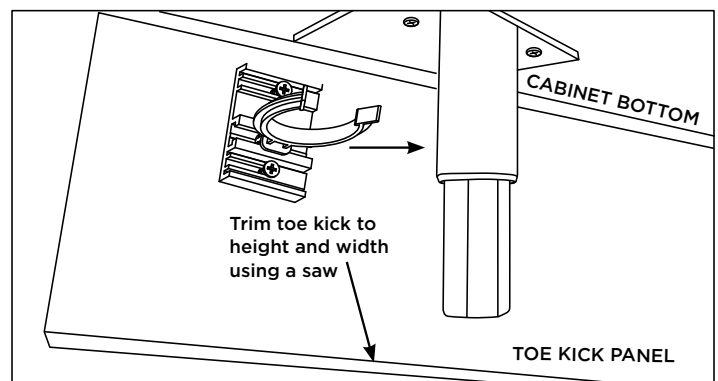

Figure 11
- 5. Slide the clip into the channel on the Clip Plate (Figure 11).